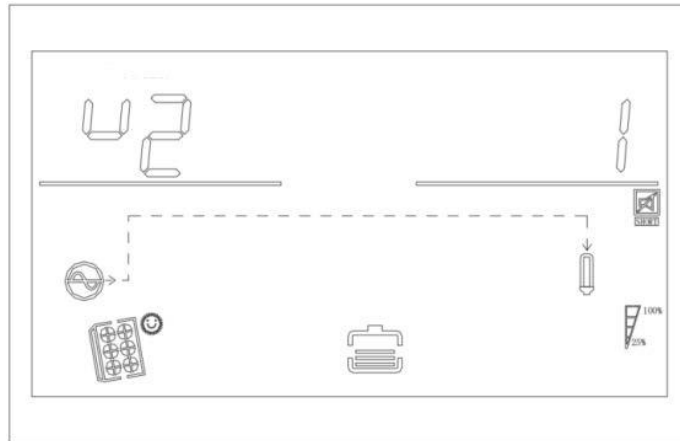

Figure 1-12 Display Page 10 (Software Version)
- 3KVML/3KVP: Displays the MPPT system software version (see Figure 1-12).